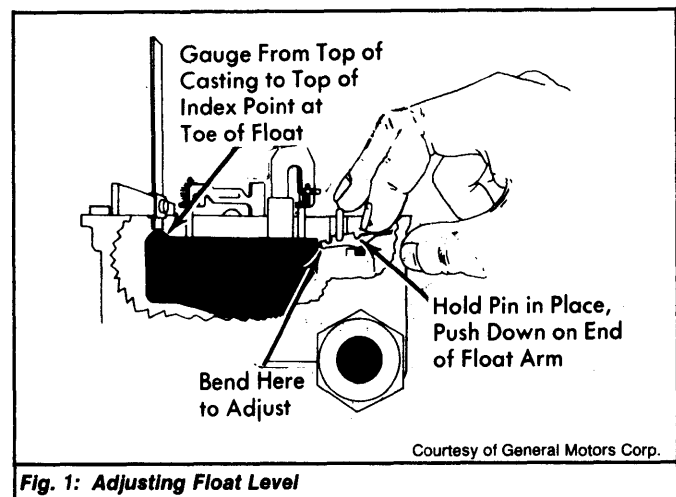

Fig. 1: Adjusting Float Level
1) Remove air horn. Hold float pin firmly in place. Push down on end of float arm against top of float needle. See Fig. 1. With gasket removed, use a "T" scale to measure distance from top of casting to index point at toe of float.